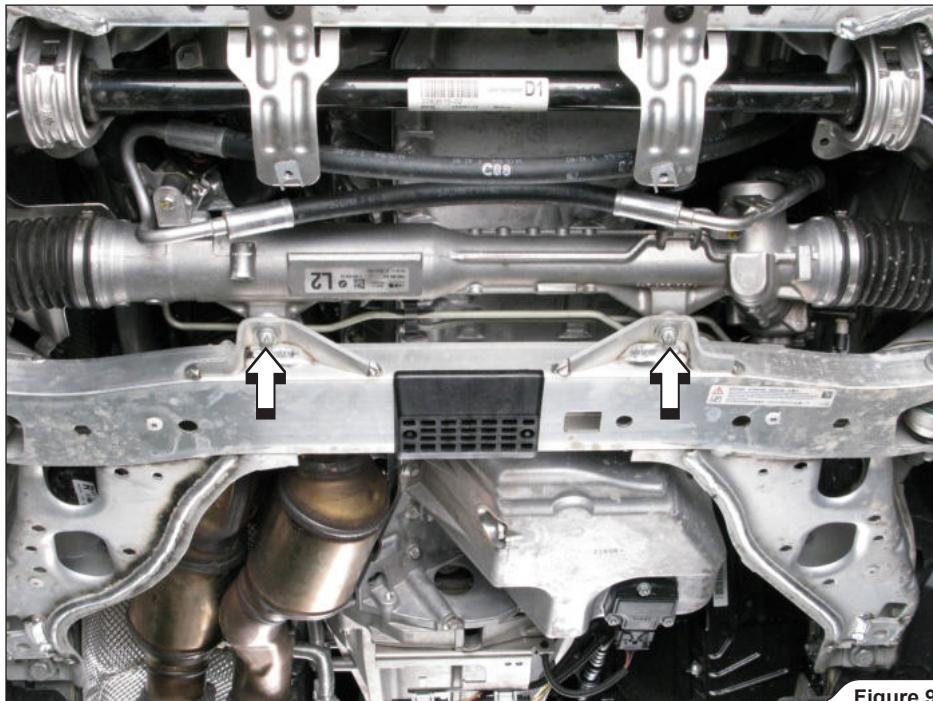

Figure 9
8. **For optional Down Pipes:** unscrew the marked bolts and partially remove the power steering (Figure 9).